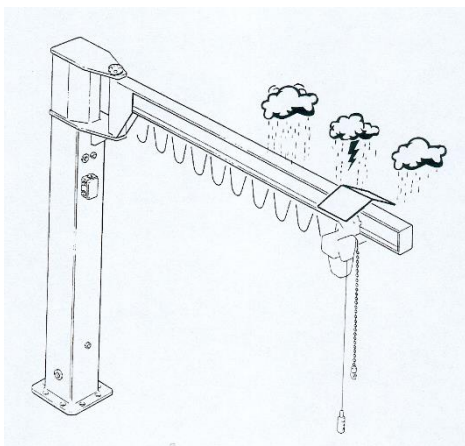

fig.58
- **outdoor use:** the jib crane may be exposed to atmospheric conditions during and after use. The electric parts of the hoist and trolley have IP55 protection, however, protecting the hoist and trolley with a shelter of some kind is recommended (fig.58).